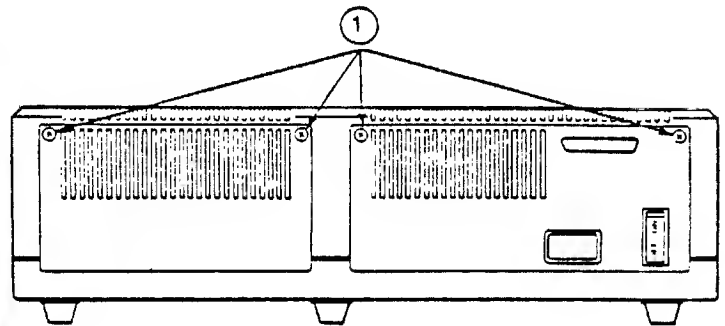

FIGURE 3
3. Turn the ProFile right side up; loosen but do not remove the four screws on the back of the unit (Figure 3, #1).